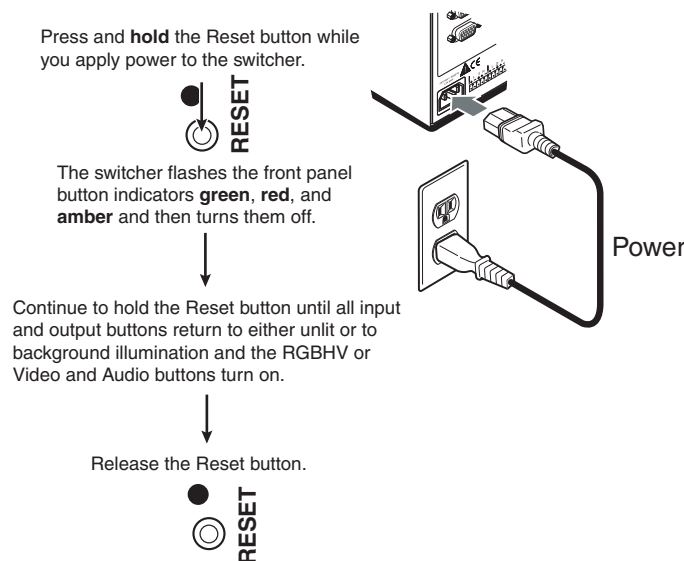

Figure 3-72 — Hard reset
2. Press and **hold** the Reset button on the rear panel **while** you apply AC power to the switcher (figure 3-72).